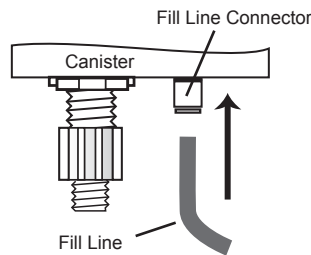

Figure 2
2) Push one end of the tubing into the Fill Line Connector on the bottom of the Canister (see Figure 2). Make sure it is pushed in all the way. Lay the coil of tubing on the ground for now.